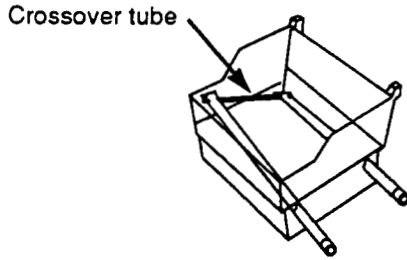

Figure 13
- g) Lift and twist the burner assembly slightly, to separate the crossover tube from the burners. Figure 13. Remove the burners from the cooking box.